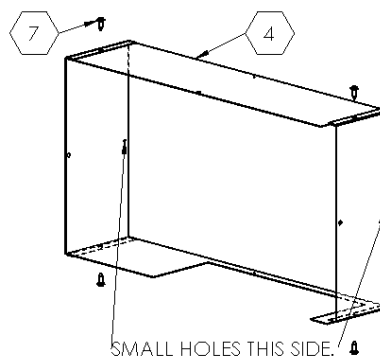

Figure 2
3. Assemble extension kit (4) so that small holes are to the same side, screw together with screws (7) provided fig 2.